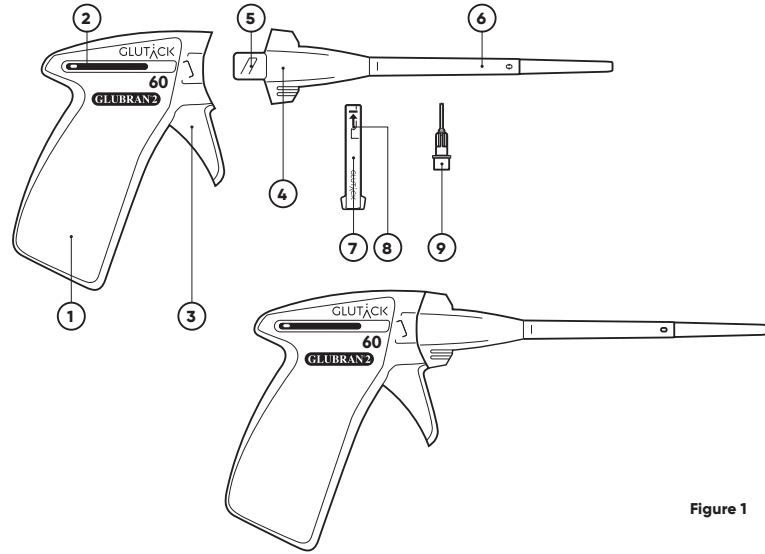

Figure 1
- **Handpiece** (Fig. 1, No. 1) with label stating the number of drops that can be dispensed; equipped with slider (Fig. 1, No. 2), which displays the amount of Glubran® 2 dispensed during the procedure, and trigger (Fig. 1, No. 3) connected to the gear that forms the drop dispensing system.
- **coupling base** (Fig. 1, N°4) and chamber for housing the loading cartridge (Fig. 1, N°5);
- **long polyethylene shaft**, 15 cm (Fig. 1, N° 6) containing a small tube that allows Glubran® 2 to pass through;
- **Cartridge** for Glubran® 2 made of transparent plastic (Fig. 1, N°7), pre-printed with symbols showing the direction of insertion into the housing chamber and the loading level (Fig. 1, N°8).
- **Transfer tip** to be used for loading the cartridge with Glubran® 2 (Fig. 1, N°9).